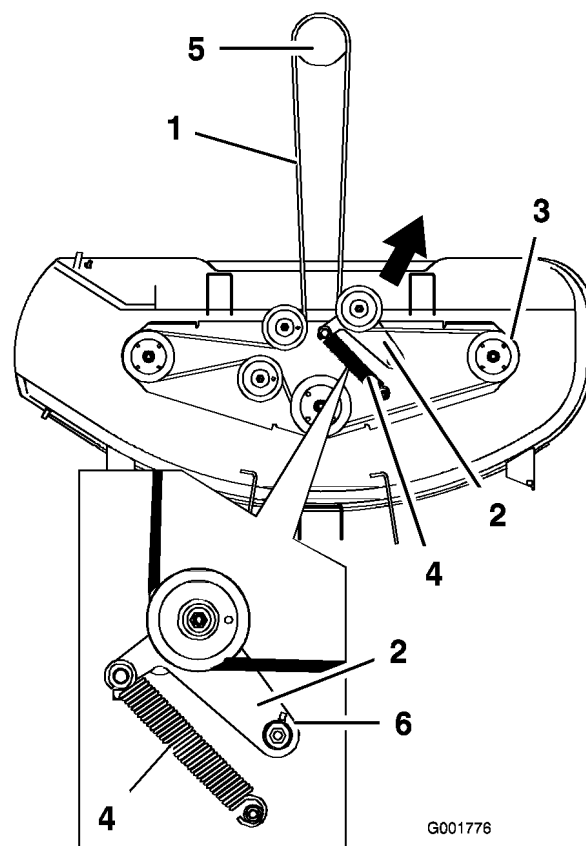

Figure 48
- Remove the belt covers over the outside spindles (Figure 48).
- Pull the idler pulley in the direction shown in Figure 48 and roll the belt off of the pulleys.
- Route the new belt around the engine pulley and mower pulleys (Figure 48).
- Pull the idler pulley in the direction shown in Figure 48 and route the belt onto the idler pulley (Figure 48).
- Rotate the belt guide, on the idler arm, towards the pulley until it stops (Figure 48).
- Tighten the belt guide (Figure 48).